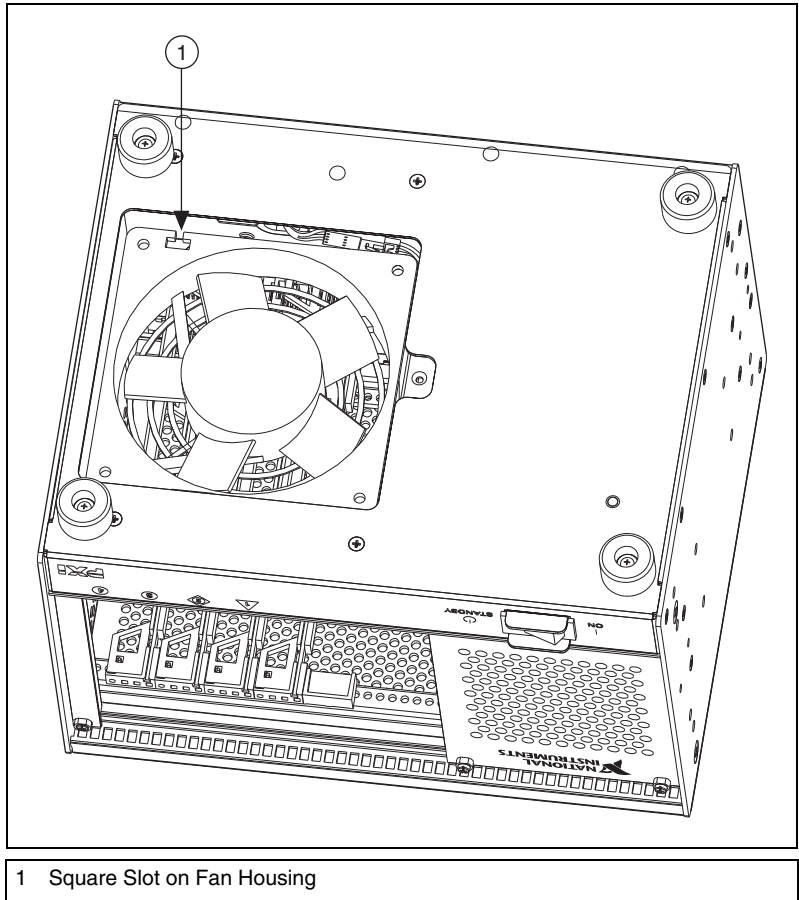

Figure 7. Square Slot on Fan Housing
6. Connect the new fan to the inline connector. Place the fan inside the fan bracket with the square slot oriented as shown in Figure 7. The fan flow direction is into the chassis, so the plastic grill on the fan should face toward the PXI card cage.